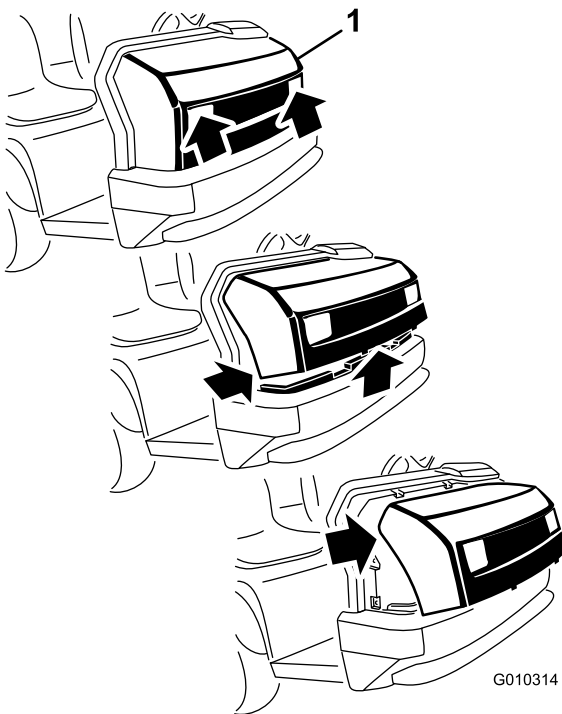

Figure 38
1. While grasping the hood in the headlight openings, lift up on the hood to release the lower mounting tabs from the frame slots (Figure 38).
2. Pivot the bottom of the hood upward until the top mounting tabs can be pulled from the frame slots (Figure 38).
3. Pivot the top of the hood forward, and unplug the wire connectors from the head lights (Figure 38).